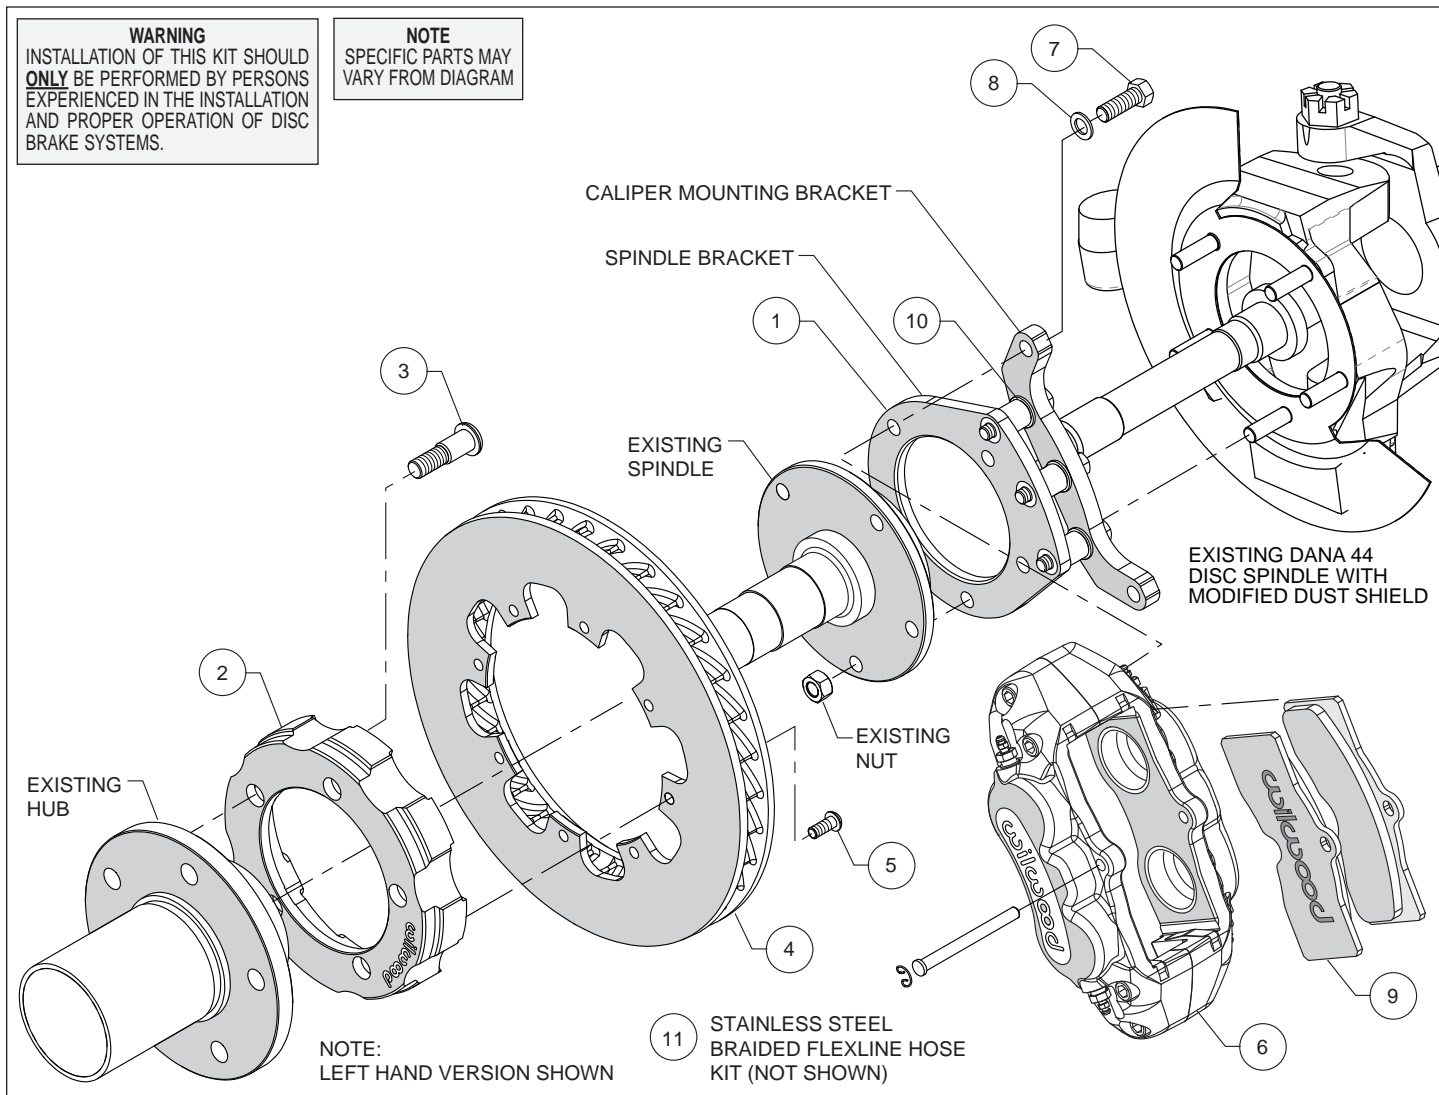

Figure 1. Typical Installation Configuration
Assembly Instructions (numbers in parenthesis refer to the parts list and Figure 1 on the preceding pages): **CAUTION: All mounting bolts must fully engage clinch nuts.** Be sure to check that all bolts are either flush or protruding through flanged side of clinch nut after shimming, Figure 4.
- The caliper mount bracket (1) has been assembled at the factory for alignment purposes. Orient the bracket as shown in Figure 1 and Photo 1, and install onto the knuckle. Install the OEM spindle over the bracket and secure with OEM nuts, Photo 2. Temporarily tighten the mounting nuts. **NOTE: The bracket must fit squarely against the knuckle.** Inspect for interference from casting irregularities, machining ridges, burrs, etc. Remove nuts one at a time, apply red *Loctite*® 271 to the threads and torque nuts to OEM specification.
- Orient the hat (2) and the OEM hub as shown in Figure 1 and Photo 3. **NOTE: The hat must fit flush against the hub or excessive rotor run out may result.** Press fit the wheel studs (3) thru the holes in the hat and into the existing hub. **NOTE: We recommend this procedure be performed by a qualified machinist.**
- Orient the rotor (4) and the hat/hub assembly as shown in Figure 1 and Photo 4. Attach rotor to hat using bolts (5). Using an alternating sequence, apply red *Loctite*® 271 to the threads, and torque to 25 ft-lbs.
- NOTE: Please reference the caution statement at the beginning of the assembly instructions.** Mount the caliper (6) onto the caliper mounting bracket (1) using bolts (7) and washers (8), as shown in Figure 1. Temporarily tighten the mounting bolts and view the rotor (4) through the top opening of the caliper. The rotor should be centered in the caliper, Photo 5. If not, adjust by adding or subtracting shims (10) between the spindle bracket (1) and caliper mounting bracket, Figure 1. Always use the same amount of shims on each of the three mounting bolts. **NOTE: The end of each bolt must be flush with or protruding from the head of the clinch nut.** Once the caliper alignment and clinch nut engagement are correct, remove the bracket-to-bracket bolts one at a time, apply red *Loctite*® 271 to bolt threads, and torque to 40 ft-lb. Then remove the caliper mount bolts one at a time, apply red *Loctite*® 271 to threads, and torque to 60 ft-lb.